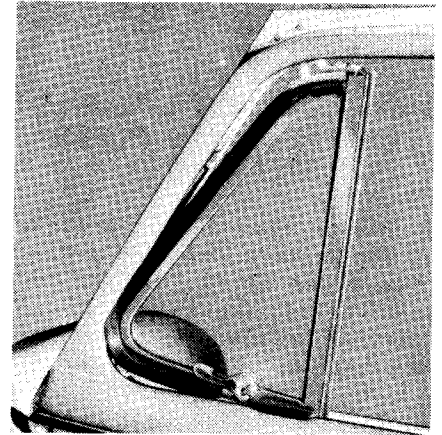

FIG. 20
12. Tip the door vent window assembly rearward to the position as shown in Fig.20. Slip the glass from the window run and lower the glass to bottom of door.